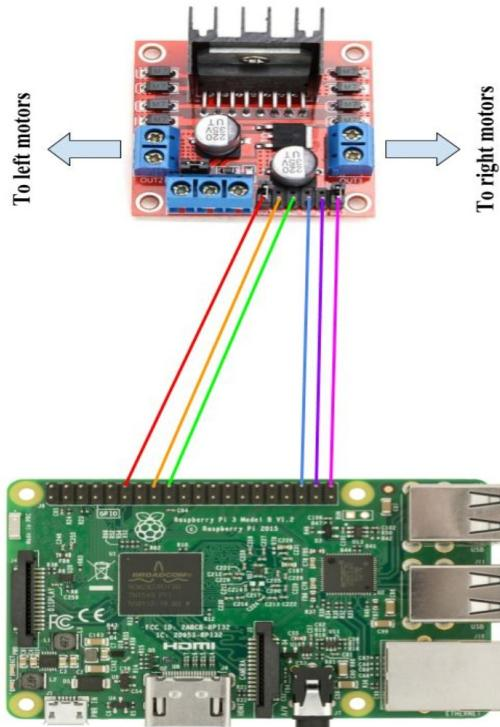

Figure 27: Circuit diagram for assigning GPIO pins to control the motors
Step 4: Once the power supply to batteries and PI have been connected, you can now connect the output pins that will control the motors. Using the female-to-female jumper cables which you have already threaded through the top plate of the buggy, connect the raspberry pins to the motor controller board according to the diagram in figure 27. Again, ensure you attach the correct pins, otherwise the motors will not respond to commands.
Step 7: Once the resistors are in place, you can connect the rest of the pins using the jumper cables according to the diagram in figure 16. Once the echo sensor is connected, you can then use blue tack to attach it to the top plate battery pack as shown in figure 27. If you don't have blue tack, it should just sit there on its own.